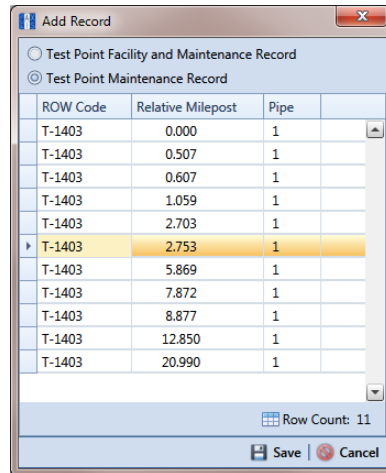

Figure 7-20. Add Record
- 5 Click **+** **Add** to open the *Add Record* dialog box (Figure 7-20). Then continue with one of the following steps:
- Click the option **Test Point Maintenance Record**. Then select a facility in the list of facilities. For example, the facility at *Milepost 2.753* is selected in the previous figure (Figure 7-20).